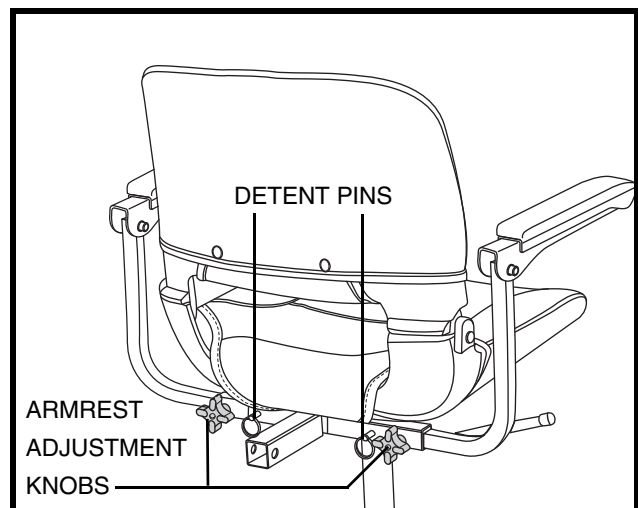

Figure 15. Armrest Width Adjustment
1. Loosen the armrest adjustment knobs. See **figure 15**.